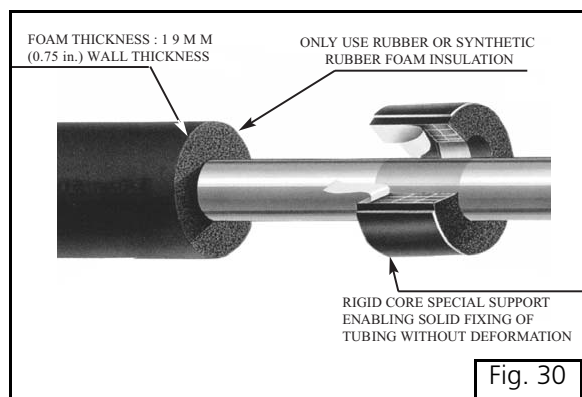

Fig. 30
– Try to use rigid foam core supports to secure piping. See Figure 30.